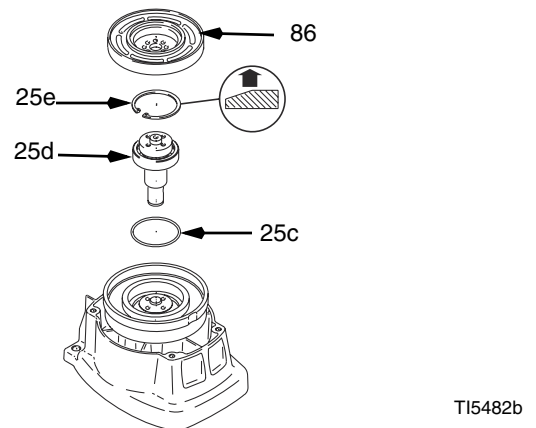

FIG. 6
7. FIG. 6. Remove retaining ring (25e).
6. FIG. 6. Check o-ring (25c) and replace if missing or damaged.